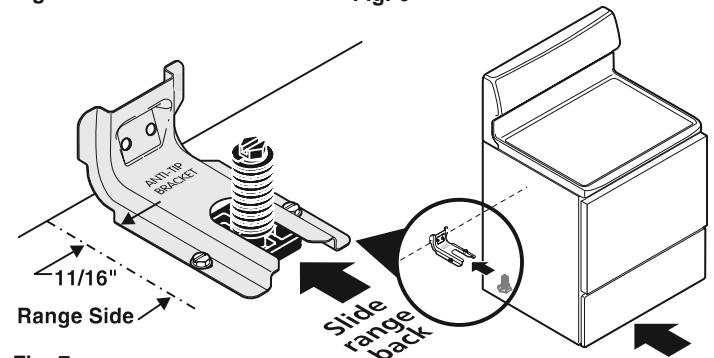

Fig. 7
1c. Level and Position Range - Level range by adjusting the (4) leveling legs with a wrench. NOTE: A minimum clearance of 1/8" is required between the bottom of the range and the leveling leg to allow room for the bracket. Use a spirit level to check your adjustments. Slide range back into position (See Fig. 7). Visually check that rear leveling leg is inserted into and fully secured by the Anti-Tip Bracket by removing lower panel or storage drawer. For models with a Warmer Drawer or broiler compartment, grasp the top rear edge of the range and carefully attempt to tilt it forward.